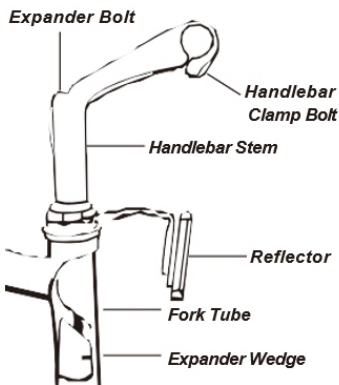

fig.9
Step 3: Handlebar & Handlebar Stem Assembly(refer to fig. 9 and 10)
Since your cycle may be fitted with an adjustable, a standard stem or an A- head stem(refer to fig.9), you must always check that all the bolts are tight before cycling. Based on the situation of standard handlebar stem, please follow the instruction below: